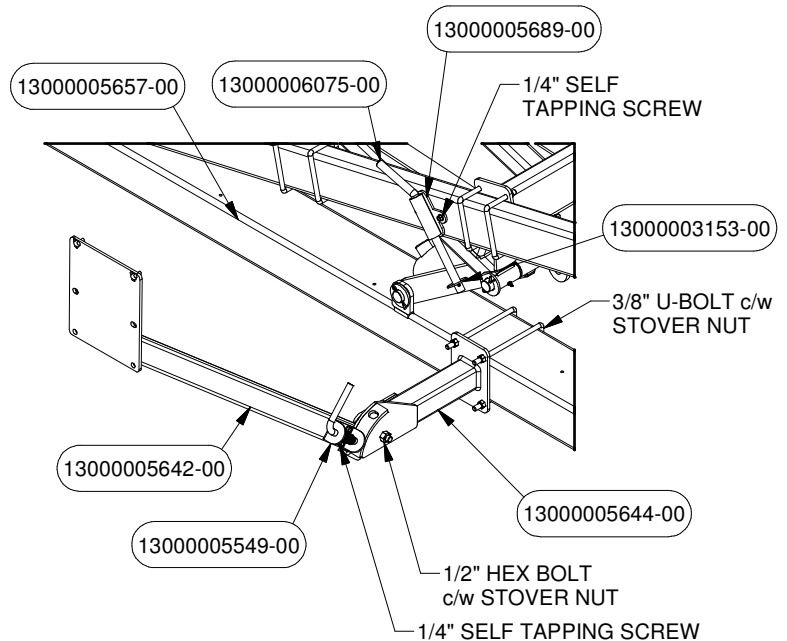

FIGURE 55
10. Attach the Steer Arm Mount PN# 5644 to the Mover Frame PN# 5657 using U-Bolts c/w Stover Nuts. Attach the Handle Arm PN# 5642 to the Steer Arm Mount using a Hex Bolt c/w Stover Nut. Attach the Spring Latch PN# 5549 to the Handle Arm using Self Tapping Screws (See Figure 55).
11. Attach the Transport Holder Pin PN# 5689 to the Mover Frame PN# 5657 using Self Tapping Screws. Place the Frame Pin PN# 6075 and insert the Lynch Pin PN# 3153 in to it to lock (See Figure 55).